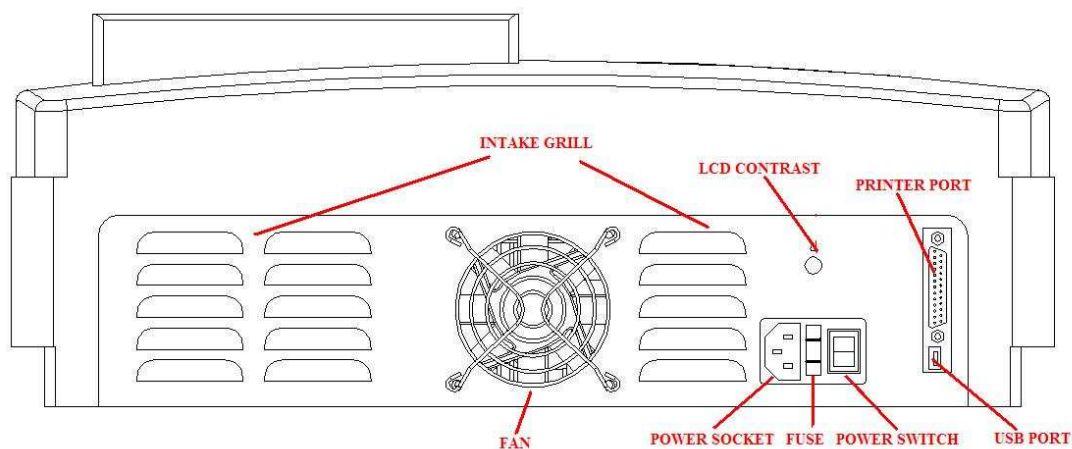

Fig1 Front and Back View of the instrument
This instrument (Fig 1) is a single beam, general purpose instrument designed to meet the needs of the Conventional Laboratory, This instrument is ideal for various applications, such as: Chemistry, Biochemistry, petrochemistry, Environmental Protection, Food and Beverage Labs, Water and Waste Water Labs and other fields of quality control and research.
Turn on spectrophotometer by pressing the Power Switch (IO)(see Fig1).
Note: If you find the screen is not bright enough, you can adjust the brightness by turning the knob of the screen adjuster which located in the back of the instrument.(Fig.1)